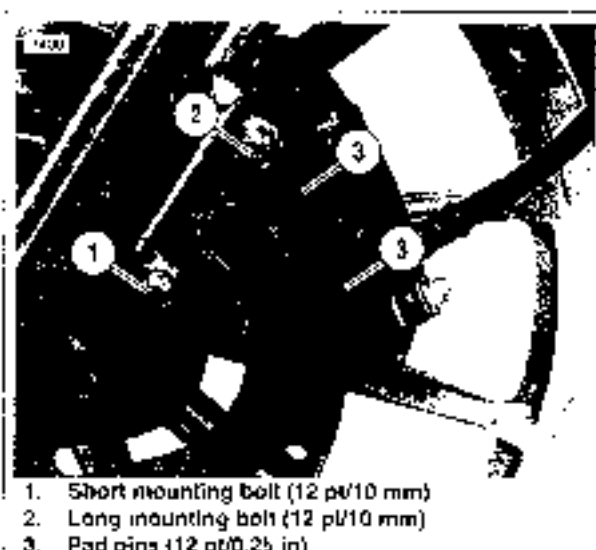

Figure 1-18. Front Brake Caliper (Left Side Shown)
2. See Figure 1-18. Loosen, but do not remove, both pad pins (3) (12 pt/0.25 in.).
- b. See Figure 1-18. Place caliper over brake disc with bleeder valve facing upwards.
- c. Loosely install long mounting bolt (2) (12 pt/10 mm) into top hole on fork leg.
- d. Install short mounting bolt (1) (12 pt/10 mm) into bottom hole on fork leg. Tighten bottom mounting bolt to 28-38 ft-lbs (38.51-5 Nm).